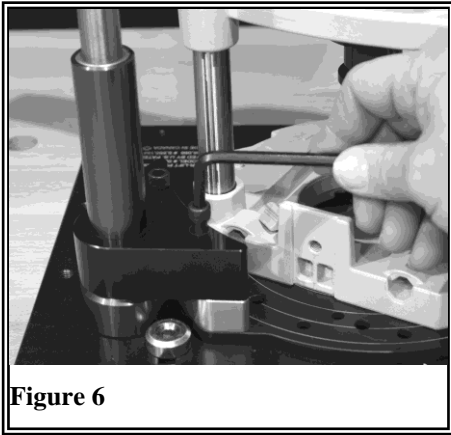

Figure 6
7. With two 1/4-20 x 1-1/2" Cap screws you removed in Step 1, re-engage into the left carriage bracket. (Figure 6)